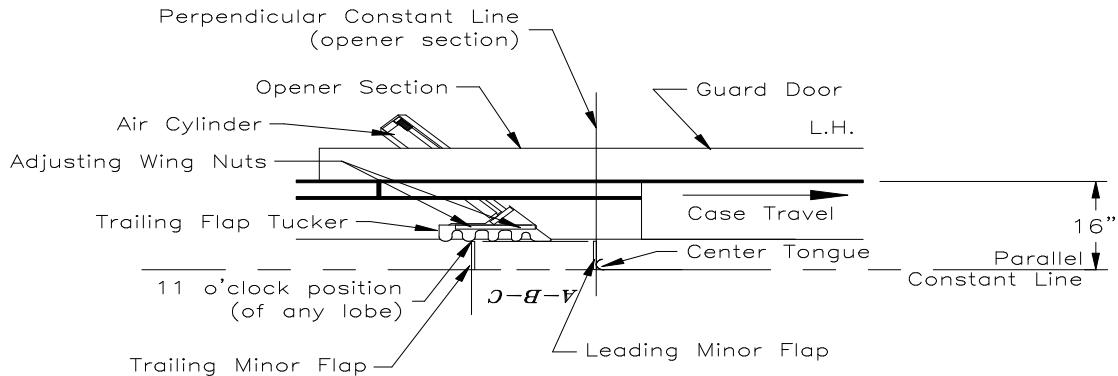

FIGURE 4.4 - ADJUSTING TRAILING FLAP TUCKER ARM
- If the trailing flap tucker arm assembly is not withdrawn (with the power turned off) gently pull back the trailing flap tucker arm into the air cylinder. Loosen the two wing nuts and adjust the trailing flap tucker so the rear minor flap of the case is hit by the front of one of the curves (about 11 o'clock on a lobe). See figure 4.4
- Retract the air cylinder again to reconfirm the point of contact at the beginning of the fold (about o'clock on a lobe) See figure 4.4.
Cause: Trailing flap tucker is not properly adjusted (see figures 4.4 and 4.5)